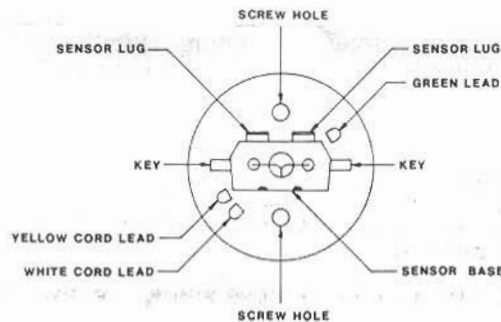

Figure 2
14. Assuming the strain relief did not come off the cord, pull the cord through the handle so that the insulator with sensor can be worked into place. Align the sensor and insulator as shown in Figure 2 so that sensor leads are facing towards you. Rotate the handle so that the Weller logo is also toward you in the same plane. Guide the sensor and insulator into the handle, wiggling slightly to properly seat insulator. The sensor lugs should straddle the screw boss in the handle if positioning is correct. With the handle in one hand and the cord in the other, rotate the cord until the flat on the strain relief aligns with the handle stop bar under the Weller logo. Pull firmly until the strain relief snaps into place. (If this cannot be done, check for strain relief alignment or insulator alignment.) Replace heating element and flange screws. Check sensor for free movement with tip. There should be approximately 1/16" movement of the tip from spring action.